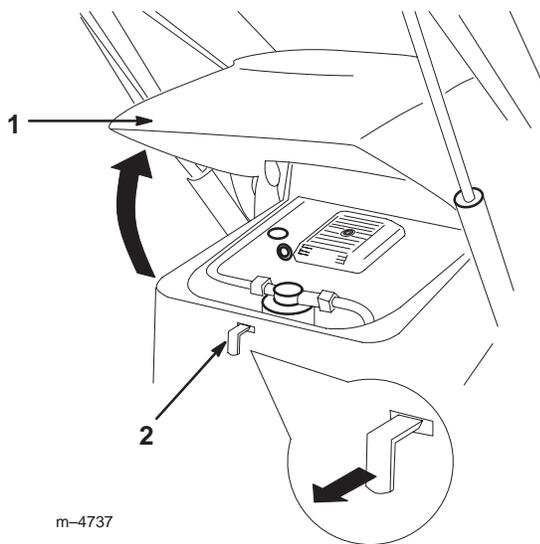

Figure 16
1. Pull out the hood latch in the front screen (Fig. 16).
2. Swing the hood up until it locks open (Fig. 16).